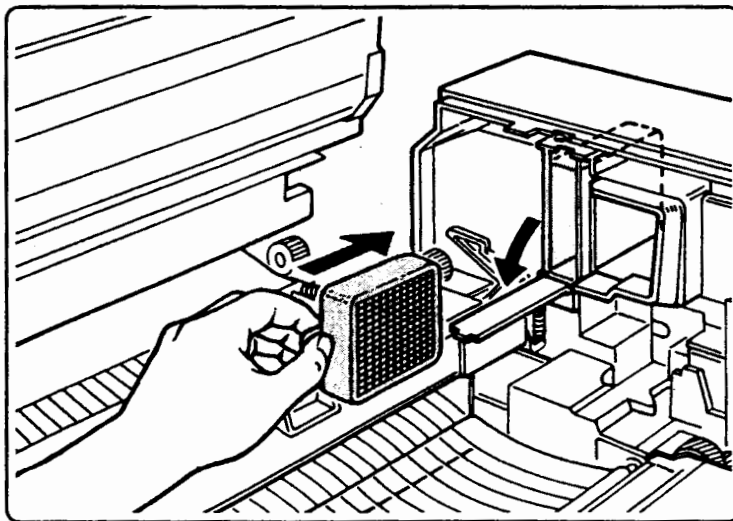

Figure 4-14. Ozone Filter Replacement
1. The Ozone Filter is located in the housing on the inner right side of the printer (see Figure 4-14).